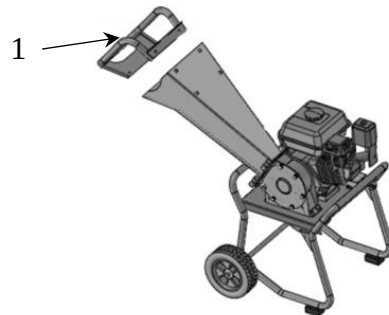

Fig. 5
- Align the hopper handle carefully with the opening of the feeding hopper. See Fig. 5.